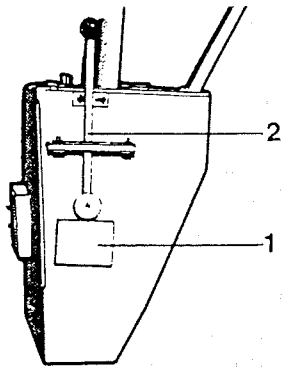
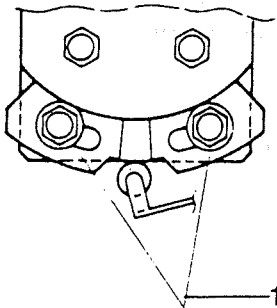

Fig 17a Steering column, right hand side
Fig 17b Setting of engagement
The setting for engagement of vibration at different speeds can be changed by removing the cover (1) (see Fig. 17a) and resetting the adjusting lugs (1) (see Fig. 17b).